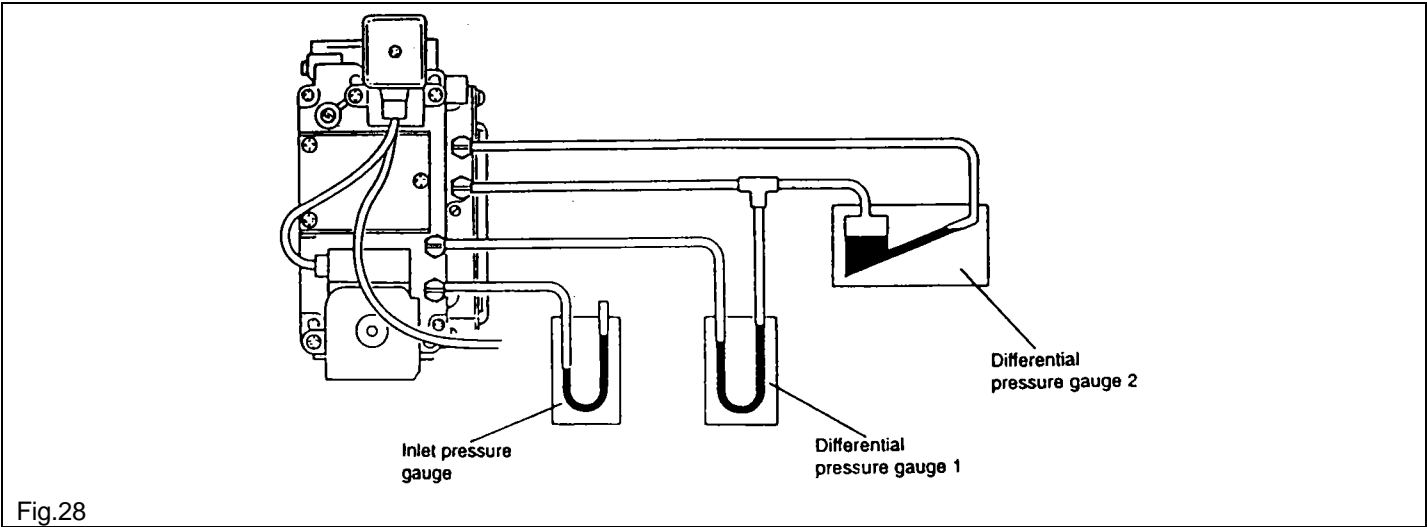

Fig.28
1. Turn off the gas service cock. Fit a pressure gauge to the gas inlet pressure test point on the gas control valve. Connect a differential pressure gauge or 'U' tube manometer between the burner pressure test point (high pressure side) and the reference pressure test point (low pressure side) on the gas valve (See Fig. 28).
3. Sufficient flexible tube and "T" piece connector to enable these instruments to be connected to the gas valve in the arrangement shown in Fig. 28.
1. Remove sealing screws and connect the two differential pressure gauges to the gas valve as shown in Fig. 28 and remove the adjustment screw sealing cap.